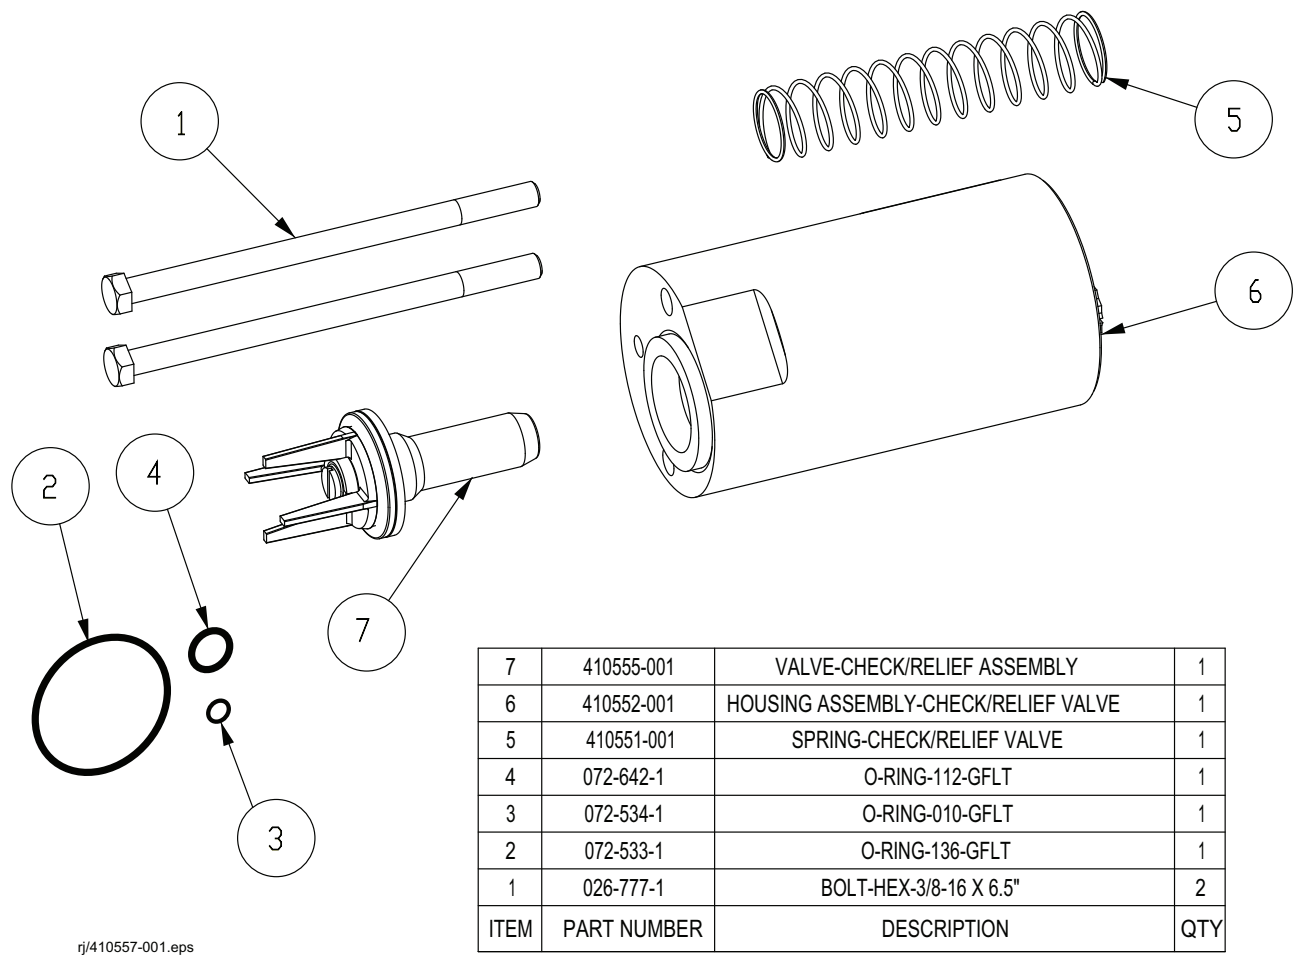

Figure 7. 410557-001 Spikecheck Check/Relief Valve (Pressure Relief Version), Housing, Spring, Fasteners, Seals
- 410557-001 Spikecheck Check/Relief Valve (Pressure Relief Version), Housing, Spring, Fasteners, Seals (See Figure 7).